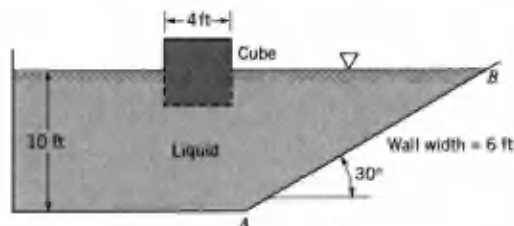

FIGURE P2.17R
2.17R (Buoyancy, force on plane surface) A cube, 4 ft on a side, weighs 3000 lb and floats half-submerged in an open tank as shown in Fig. P2.17R. For a liquid depth of 10 ft, determine the force of the liquid on the inclined section AB of the tank wall. The width of the wall is 8 ft. Show the magnitude, direction, and location of the force on a sketch.